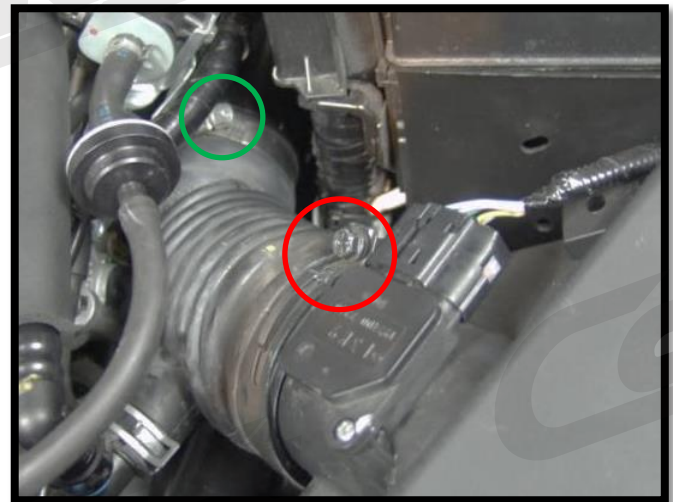

Figure 1b
- b) Loosen the two (2) 10mm hose clamps on the factory rubber intake elbow (red circle and green circle in Figure 1b).